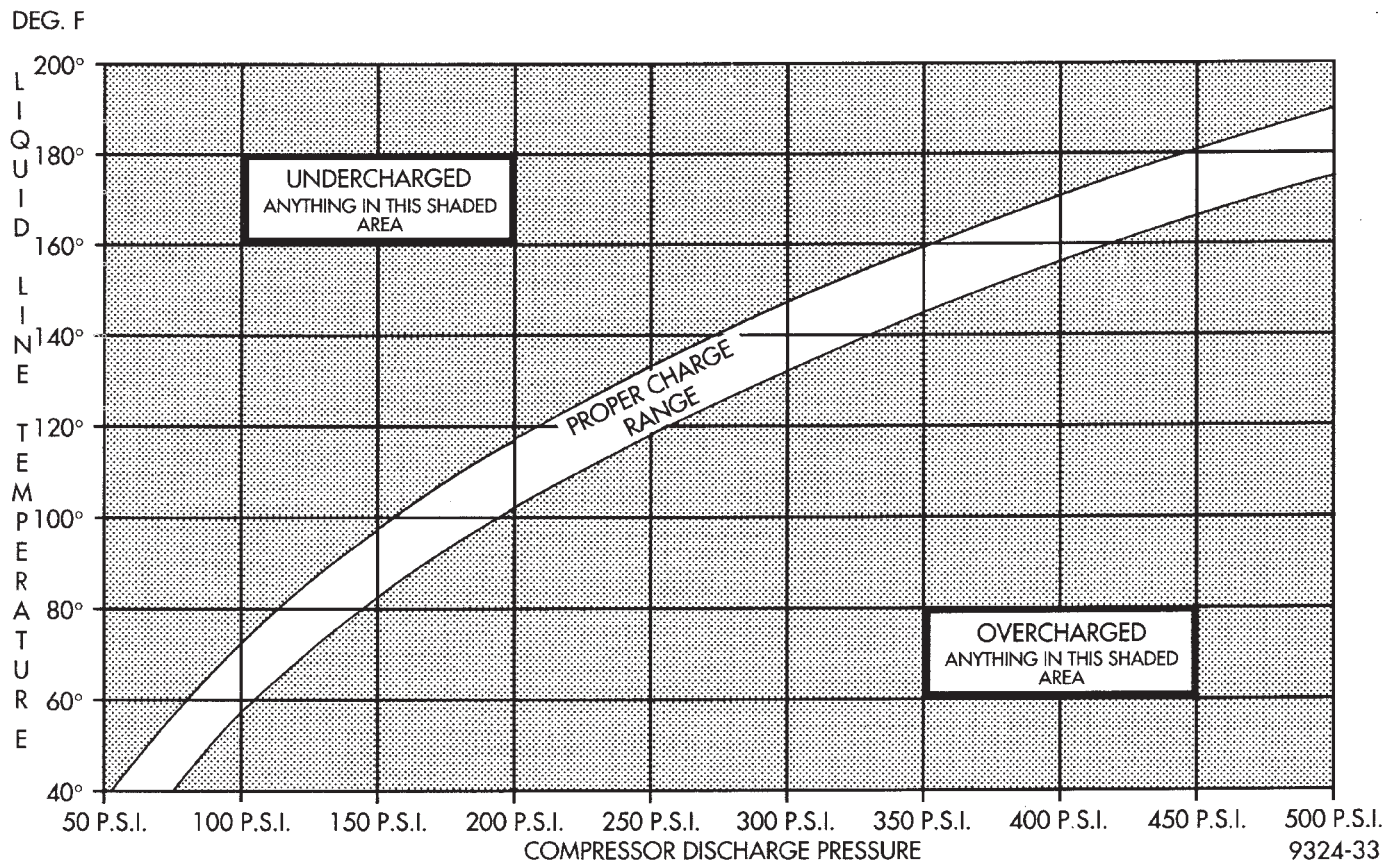

Fig. 8 Charge Determination Graph
(4) Operate system for a couple of minutes to allow the system to stabilize.
(5) Set system pressure to about 1793 kPa (260 psi) by blocking off the airflow to the front grill area. This will maintain a constant pressure and stop the cooling fans from alternating between high and low speeds.
(6) Observe Discharge pressure and Liquid line temperature. Using the Charge Determination Graph determine where the system is currently operating (Fig. 8). If the system is in the undercharged region, ADD 0.057 Kg. (2 oz.) to the system and recheck readings. If the system is in the overcharged region, RECLAIM 0.057 Kg. (2 oz.) from the system and recheck readings. Continue this process until the system readings are in the proper charge area on the Charge Determination Chart.
(7) The scan tool procedure does not require the Charge Determination Graph. The correct liquid line temperature range is calculated by the scan tool automatically.